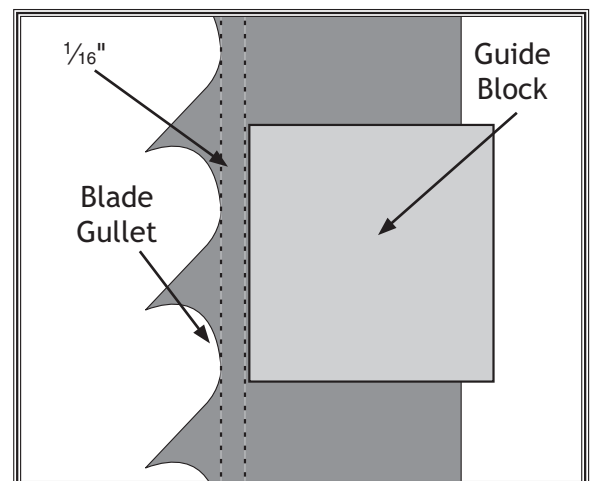

Figure 31. Spacing between guide block and gullet.
4. Loosen the rear set screw on the blade guide assembly as shown in Figure 29 and adjust the assembly in or out until the edges of the blocks are $\frac{1}{16}$ " behind the blade gullets as illustrated in Figure 31.